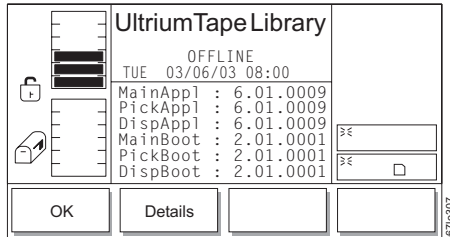

Figure 4-203. Detail Dialog
2. To view the library's current application and boot code for the picker, drive sleds, main board, and display, press the button below the **Details** softkey. The Detail Dialog displays (see Figure 4-203). Continue to press the button below the **Details** softkey until all details have displayed.